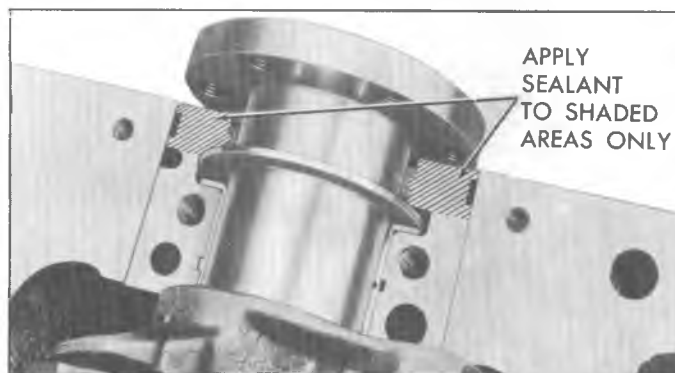

Fig. 8V—Sealing Bearing Cap
12. Install bearing cap to case with sealant applied to the cap-to-case interface being careful to keep sealant off the seal split line (fig. 8V).